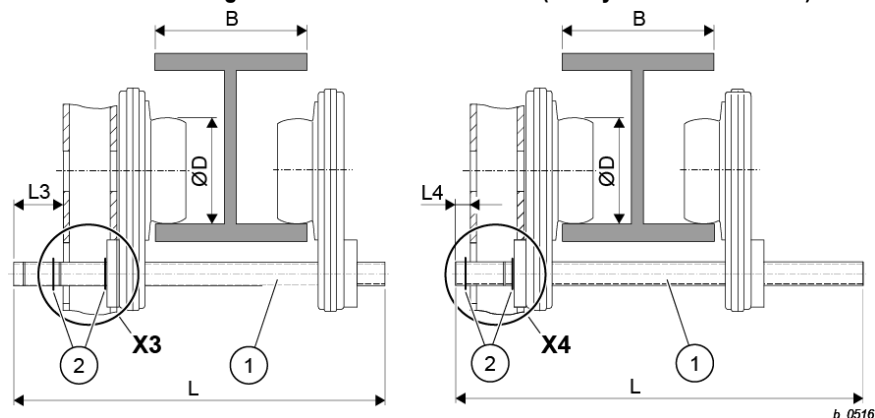

Fig. 68
- Use connecting pin and drive-through mechanism that fit beam area "B" (for dimensions see Fig. 68 and Tab. 24).